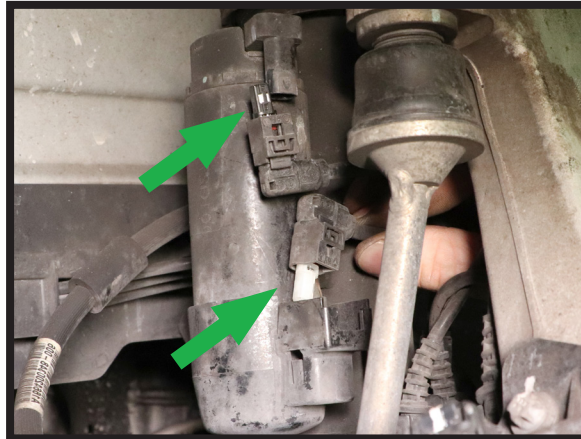

FIGURE 5
8. DISCONNECT BOTH DAMPING COIL ELECTRICAL CONNECTIONS. (FIGURE 5)